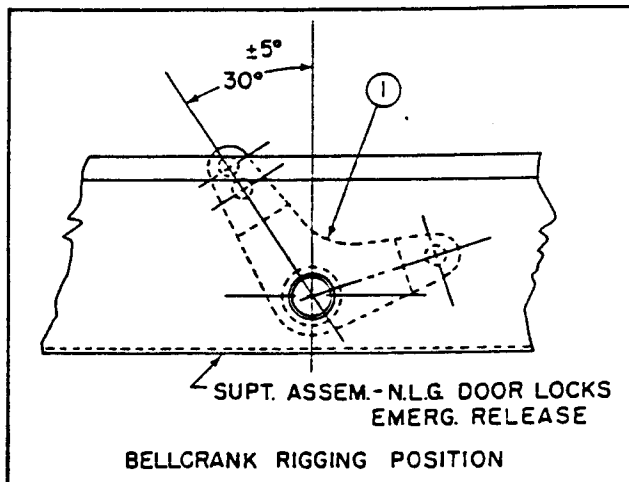

Figure 43. Rigging Nose Gear Normal and Emergency Control Cables
d. Position the crank assemblies (figures 43 and 44, reference 1) as shown.